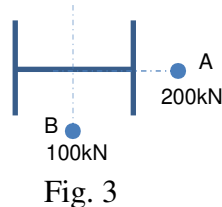

Fig. 3
- b) Select a suitable column in grade S275 steel to support design loads from beams A and B as shown in figure 3. The column is 4m overall length and is held in position at both ends but only restrained in direction at the bottom.